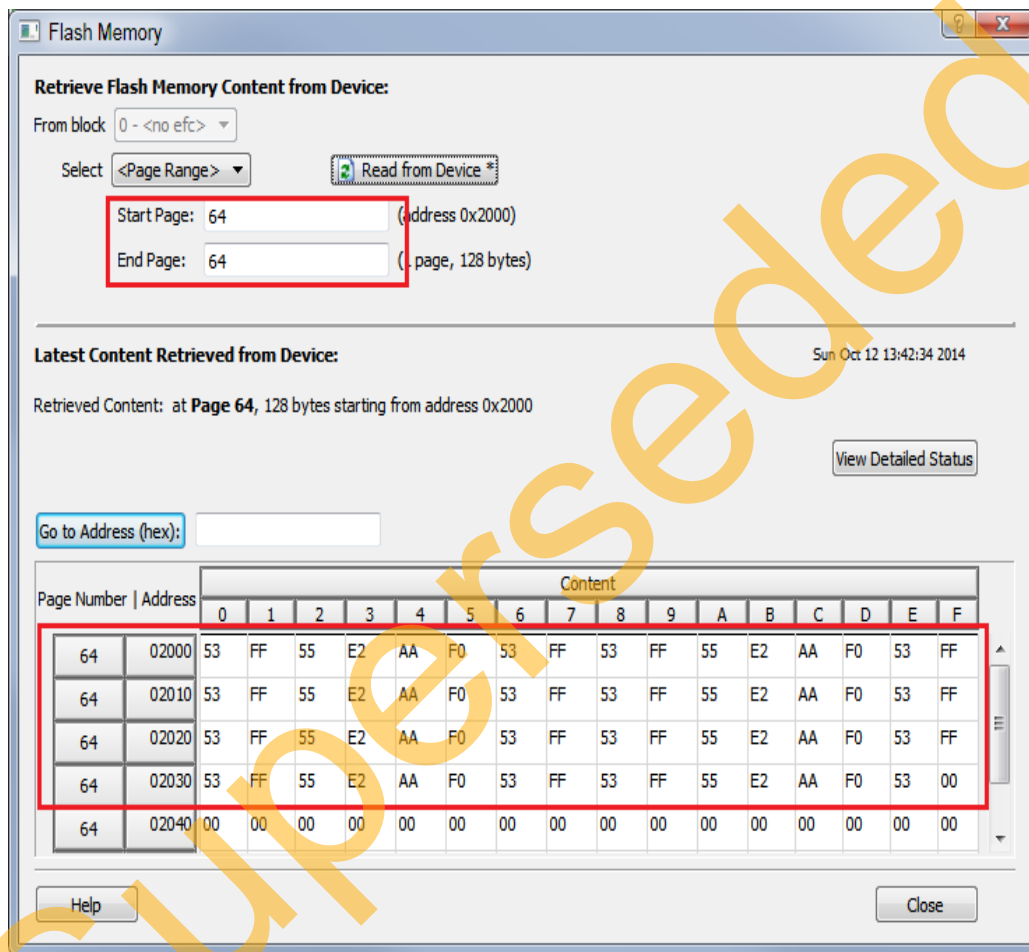

Figure 9 • Flash Memory (eNVM) Content Read from the Device
1. Using the SmartDebug window, select the **View Flash Memory Content** option. The Flash Memory window opens, as shown in Figure 9.